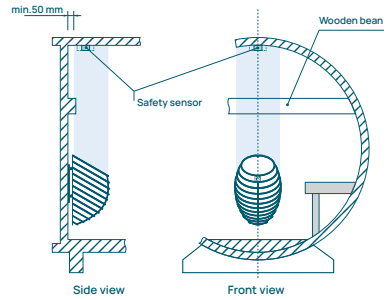

Figure 10. Installing the safety sensor on the ceiling in barrel saunas: wall-mounted heater
- Install the safety sensor on the ceiling in case your barrel sauna has a wooden beam across the wall where the heater is installed to ensure optimal operation of the sensor. Figure 10.